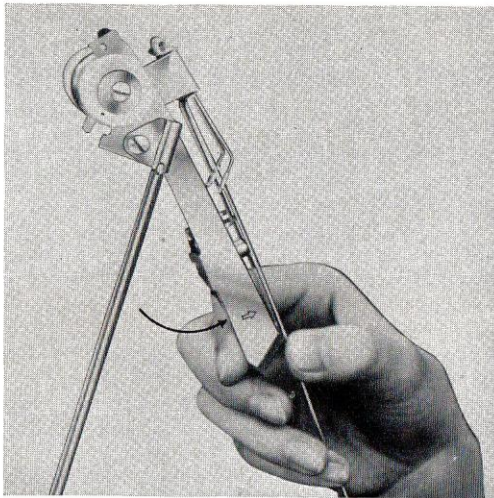
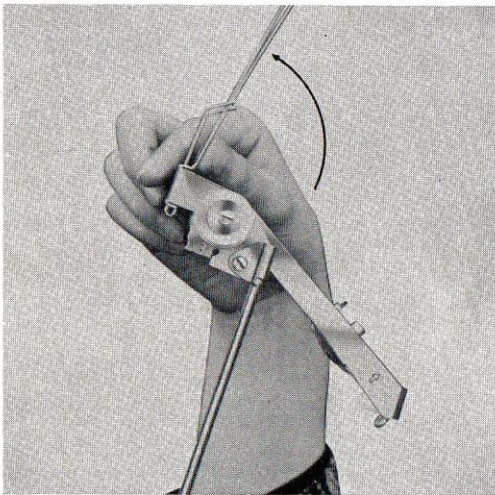

Fig. 18
Fig. 19
- (1) Turn the front yarn guide arm as far as it will go. See Fig. 18. Also turn the take-up spring as far as it will go. (See Fig. 19)